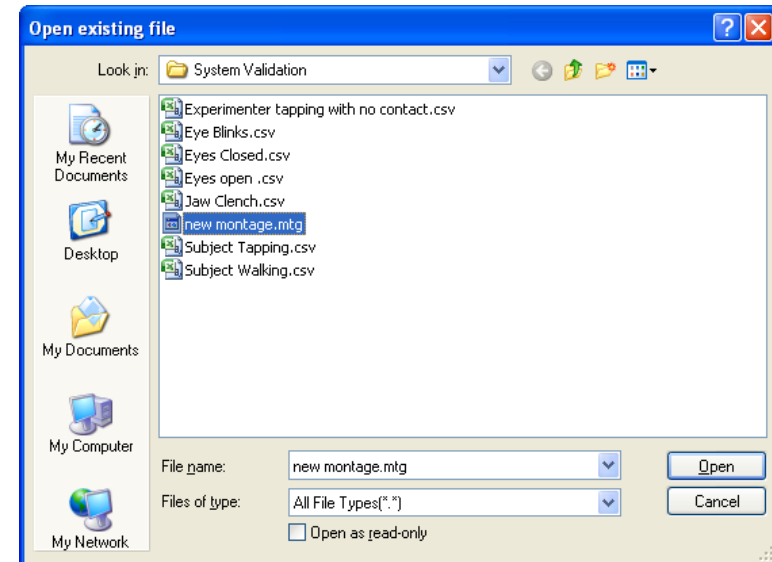

Figure 33 – Open Existing File dialog window for montage.
- This will open a “Open existing file” dialog window (Figure 33).